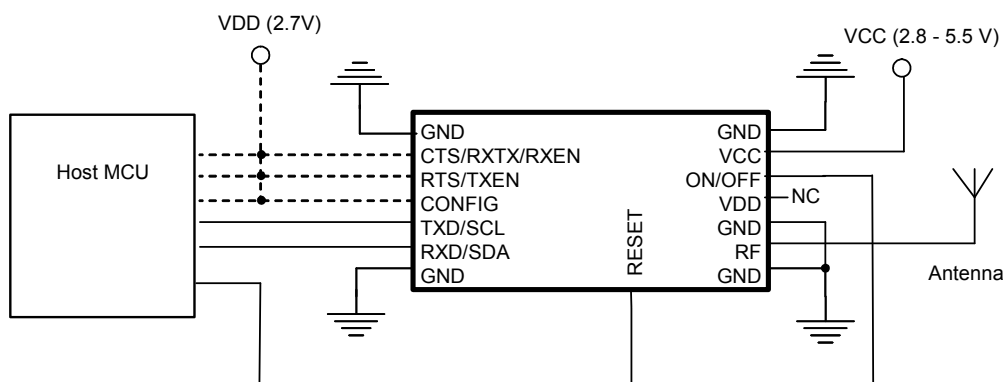

Figure 2. Reset circuit controlling ON/OFF
- Control the RESET pin by the same I/O in used to control ON/OFF. See Figure 2 below.